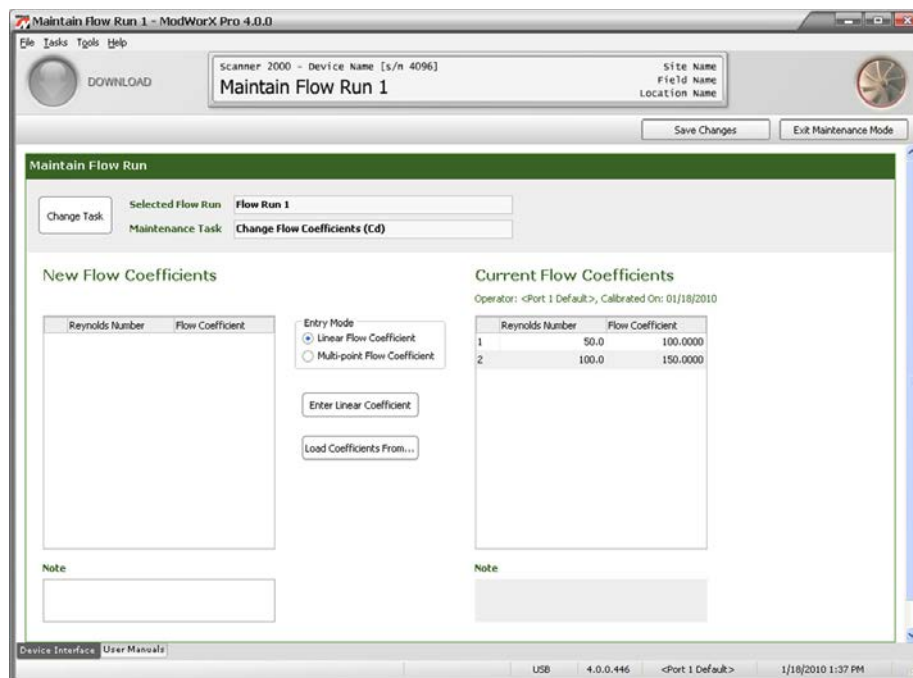

Figure 10.7
- Click **OK** to save the new selections and return to the Maintain Flow Run screen (Figure 10.7, page 139).